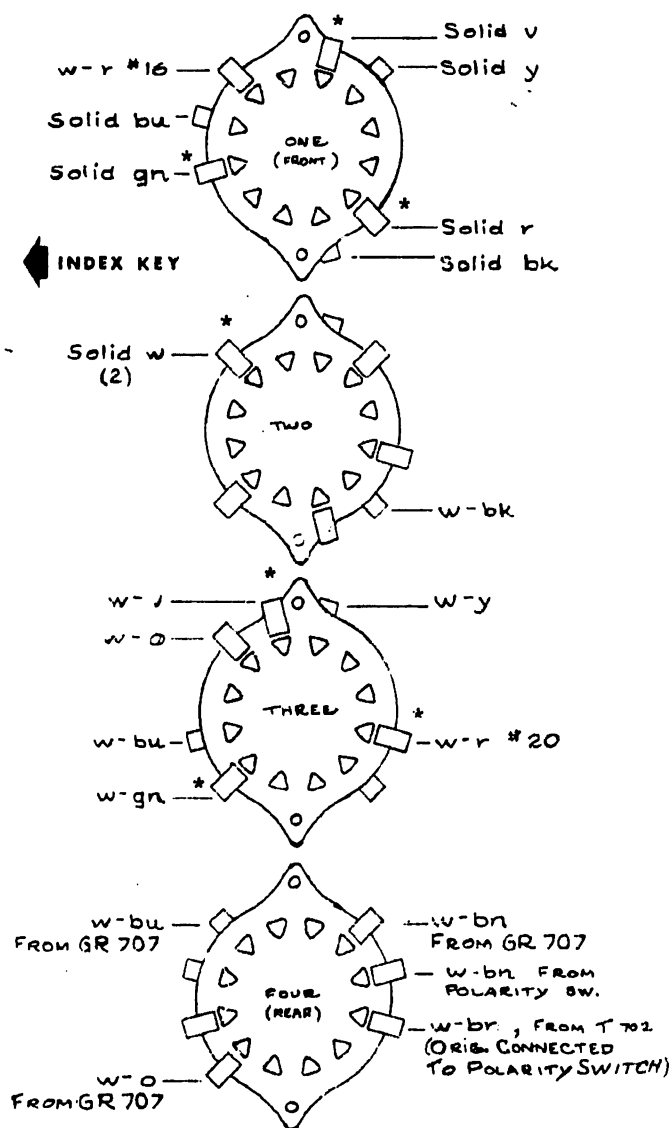

FIG. 7
NOTE: There were two white-brown wires previously connected to the POLARITY switch. Connect only the one which is dressed through the grommet in the front of the C.S. box (check with ohmmeter) to the new POLARITY switch. The other one will connect to the PEAK VOLTS RANGE switch, as called out in Fig. 7.
- () 22. Install the new PEAK VOLTS RANGE switch (from kit) and solder the wires to it as shown in Fig. 7.